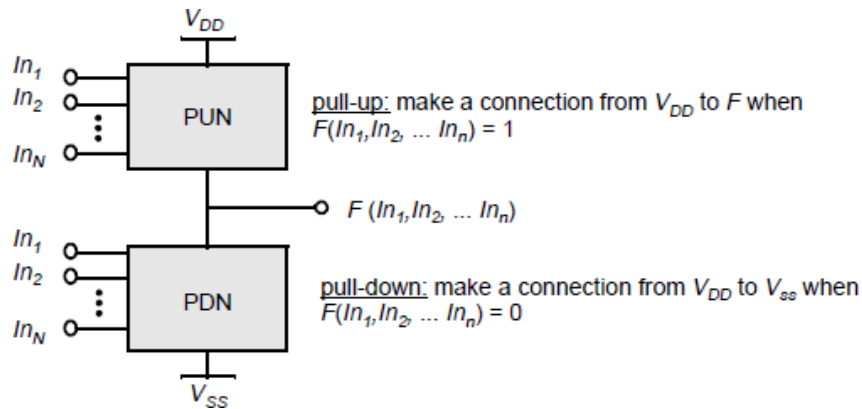

Figure 1: Complementary logic gate as a combination of a PUN (pull-up network) and a PDN (pull-down network).
- The fig 1 shows a very simple transparent latch built from a single transistor it is compact and fast but suffers four limitations.
A static CMOS gate is a combination of two networks, called the pull-up network (PUN) and the pull-down network (PDN) (Figure 1). T